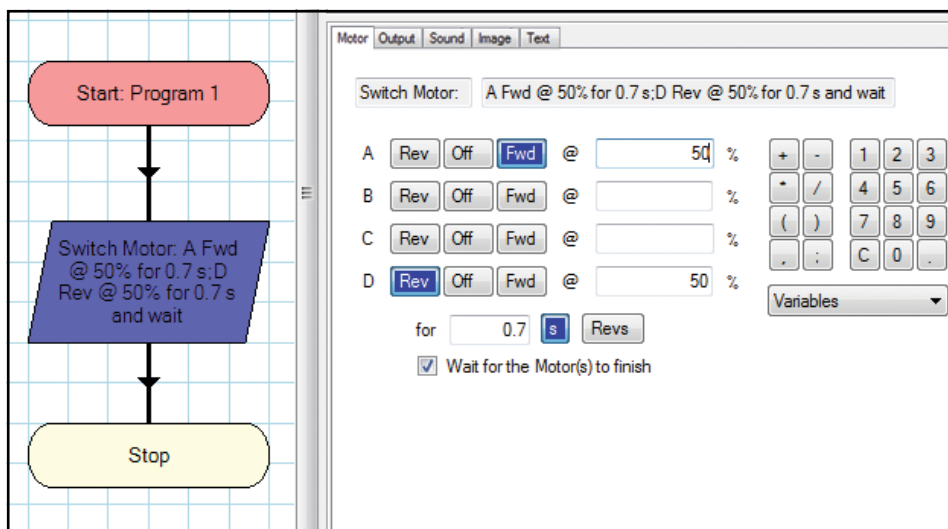

Figure 5: Pivot Turn Right.
- **Pivot Turn Right** – Right motor spins in the opposite direction to the left motor causing the model to pivot in place as it turns to the right (See Figure 5).